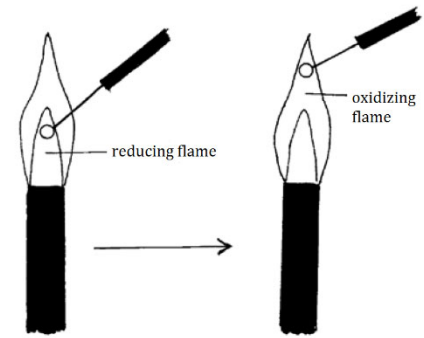

Figure 29. Flame Sterilization of an Inoculation Loop
- 1) Flame sterilization: A method to destroy the microorganisms by heating with a flame. In the laboratory, gas burners and alcohol lamps are used to sterilize inoculation loops and needles. When heating an inoculation loop with bacteria on with a gas burner, first, heat it in a low temperature reducing flame (blue flame) and then with high temperature oxidizing flame (red flame) (Figure 29). The bacteria might burst out and contaminate the surroundings if heated in the reverse order. If the inoculation loop is dipped into liquid right after burning, aerosols might be generated, so that close attention is required.